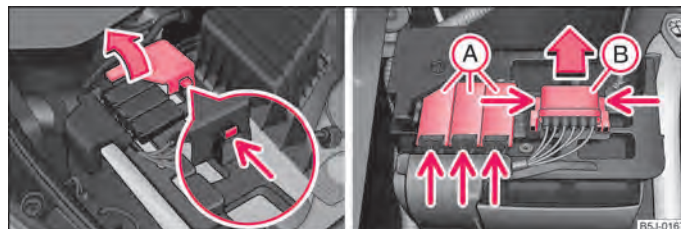

Fig. 150 The battery: Open the positive terminal cover/fuse cover
- Open the positive terminal cover (+) ⇒ fig. 150.
- Press onto the interlocks of the fuse covers (A) ⇒ fig. 150 on the right and open the covers.
- Press together the interlocks of the fuse cover (B) simultaneously and push out the cover in the direction of the arrow.
- Some vehicles are only fitted with the cover **B** ⇒ fig. 150 on the right.